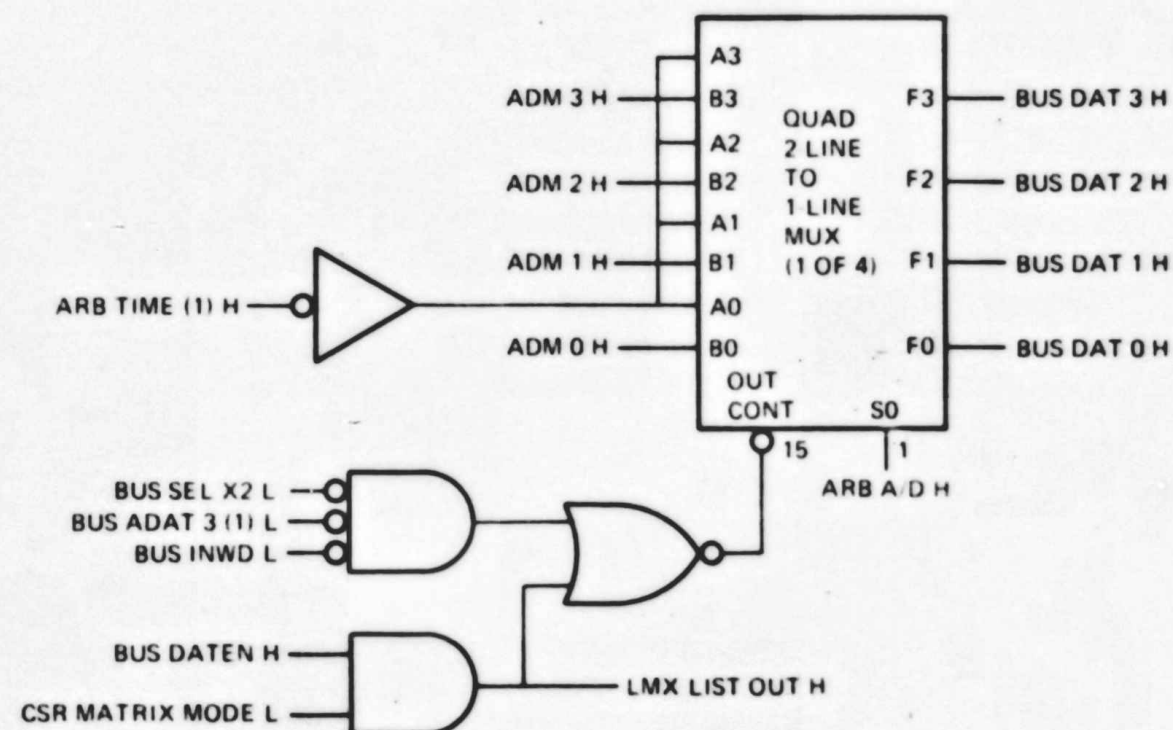

Figure 2-24 List Mode Multiplexer
The list mode multiplexer uses four quad, 2-line-to-1-line multiplexers. (See Figure 2-24.) This multiplexer has one input as ADM 0-14 from the address maker on the control module and CSR LIST BIT 15 H (not shown) from the command status register. ARB TIME (1) H goes to the other inputs. The list mode multiplexer provides three types of data.